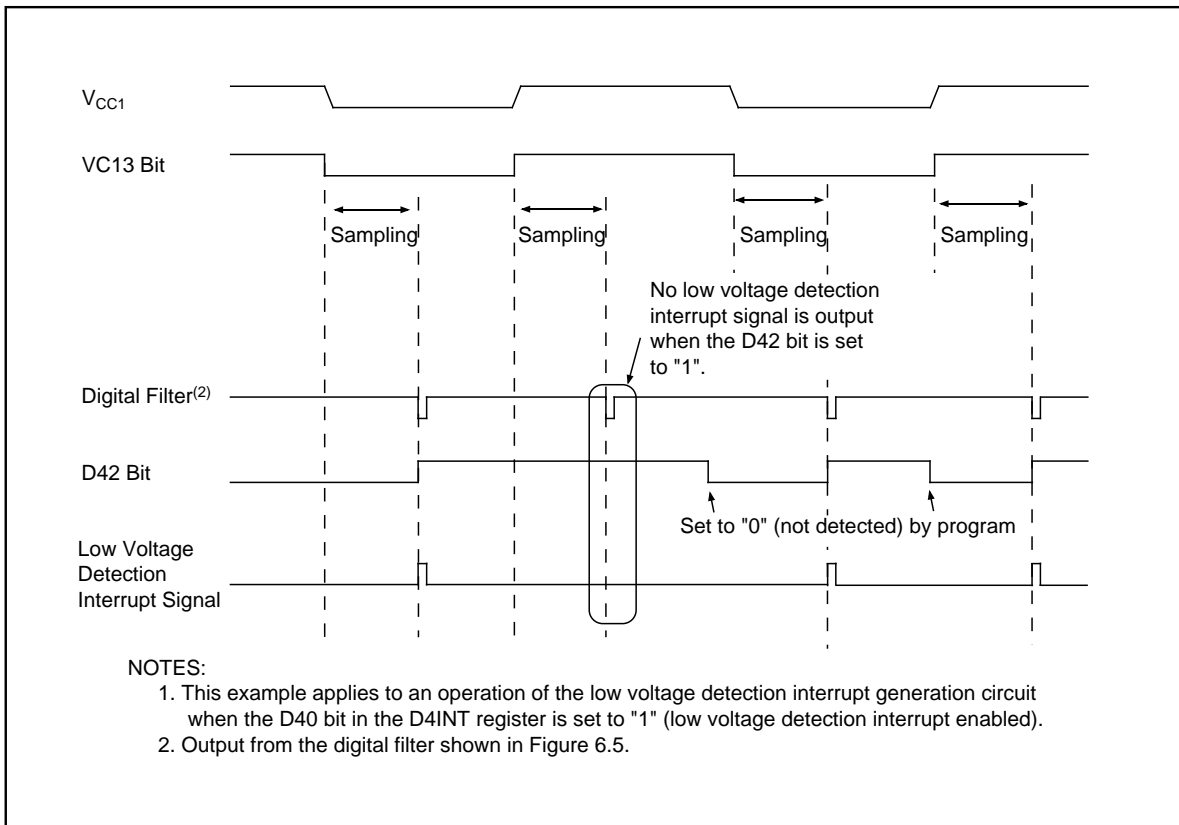

Figure 6.6 Low Voltage Detection Interrupt Generation Circuit Operation Example
- Sampling begins after the VC13 bit setting changes. An interrupt request is generated after sampling is completed. See Figure 6.6 for details.